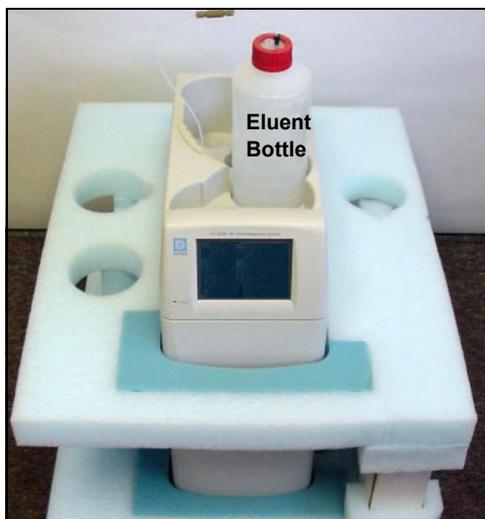

Figure 2. ICS-1500 with Eluent Bottle
2. Set the eluent bottle on top of the ICS-1500 (see Figure 2).